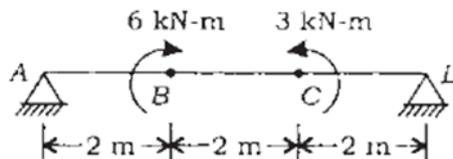

Fig. 3
15. A beam $ABCD$, 6 m long, hinged at both ends A and D , is subjected to moments 6 kN-m (cw) at B and 3 kN-m (ccw) at C as shown in Fig. 3. Sketch the bending moment diagram of the beam. How many points of contraflexure are there in the beam?